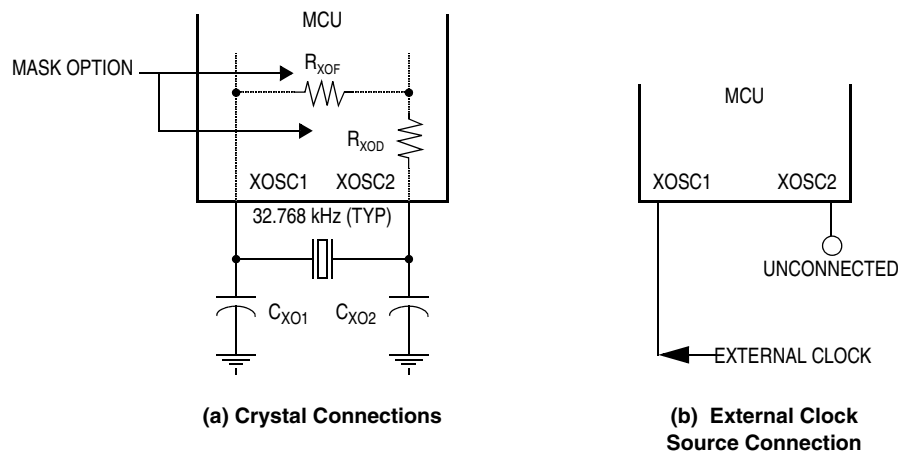

Figure 1-5. Oscillator Connections
1. A crystal as shown in Figure 1-5(a)
2. An external clock signal as shown in Figure 1-5(b)
The circuit in Figure 1-5(a) shows a typical 2-pin oscillator circuit for a 32.768-kHz “watch” crystal. The crystal manufacturer's recommendations should be followed, since the crystal parameters determine the external component values required to provide maximum stability and reliable startup. The load capacitance values used in the oscillator circuit design should include all stray capacitances. The crystal and components should be mounted as close as possible to the pins for start-up stabilization and to
As shown in Figure 1-5\(b\), an external clock from another CMOS-compatible device can be connected to the XOSC1 input (with the XOSC2 output not connected). This configuration is possible regardless of the oscillator setup.